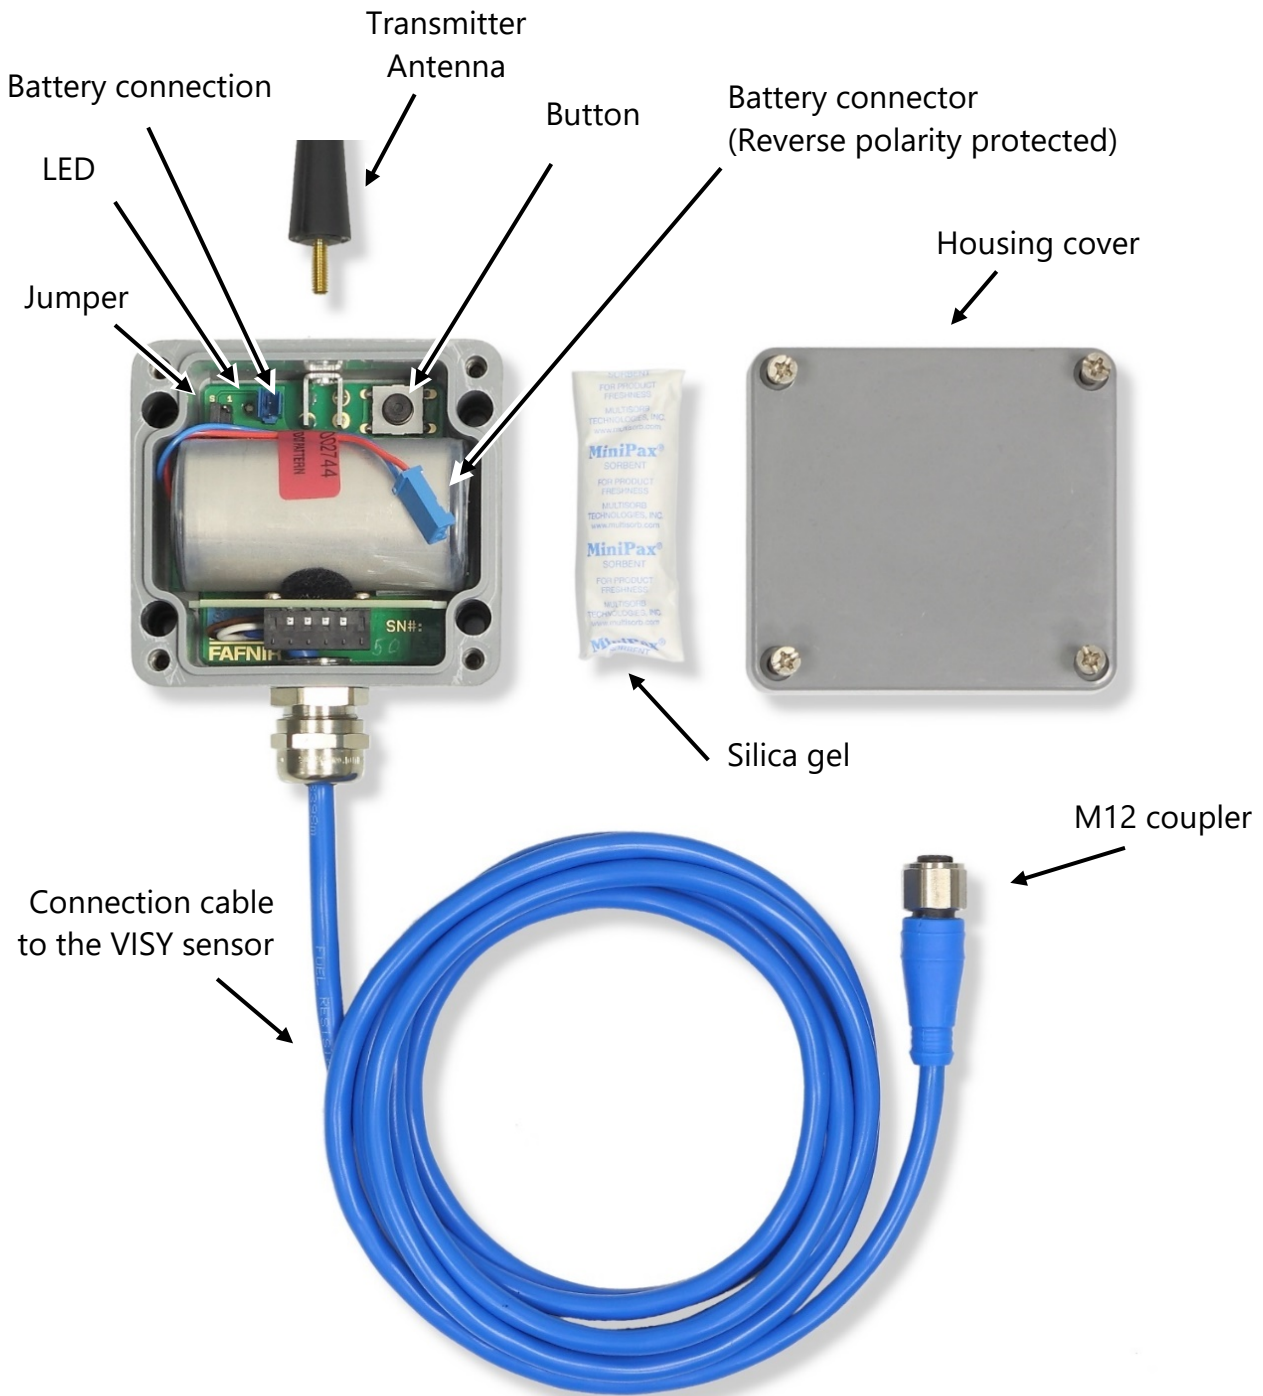

Figure 9: VISY-RFT-L transmitter module with cover removed
- Open the cover of the VISY-RFT-L transmitter module and use the jumper to select the required settings (see chapter 5.1.1). Connect the battery plug to the corresponding contacts (see Figure 9). Check that the LED lights up for three seconds as soon as the connector is connected. Place the silica gel back inside the housing and close the cover.